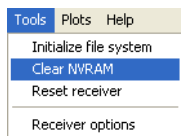

Figure 5-19. Clear NVRAM with PC-CDU
2. Click **Tools** ▶ **Clear NVRAM** (Figure 5-19).